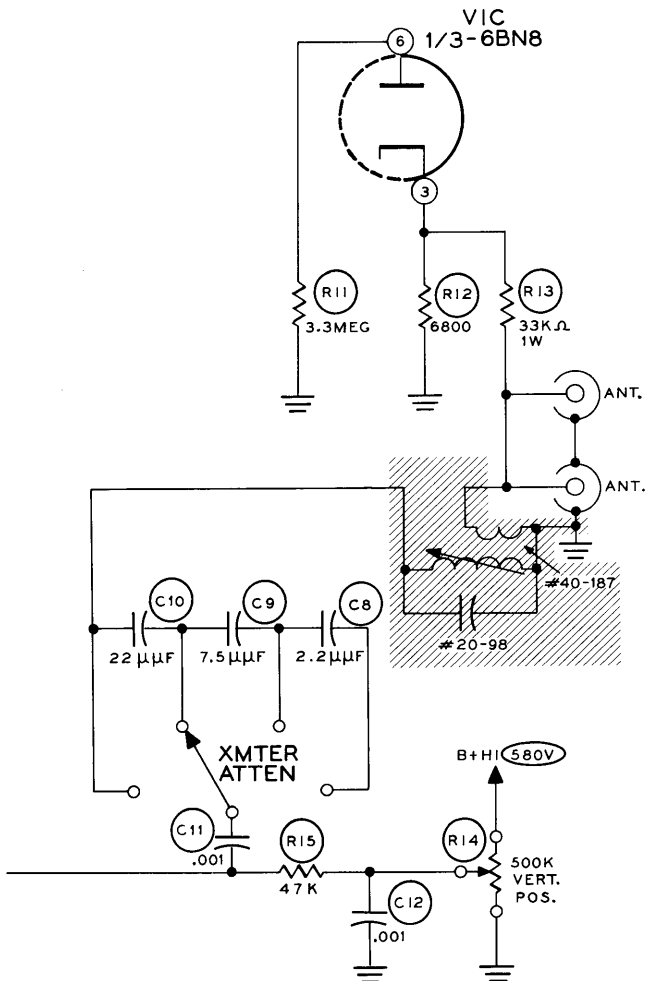

Figure 7
### USE WITH CITIZEN'S BAND TRANSCEIVERS (FIGURE 7)
1. Install a coil and capacitor in the Scope vertical input circuit as shown in Figure 7. The coil and capacitor can be obtained from Heath Company. Their part numbers are coil #40-187 and capacitor #20-98.